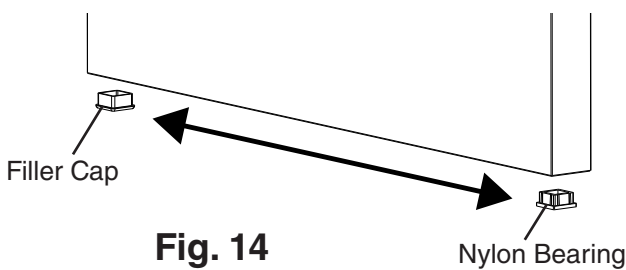

Fig. 14
- 10) Remove the filler cap and nylon bearing from the bottom of the door. See Fig. 14. Reinstall on the opposite side.